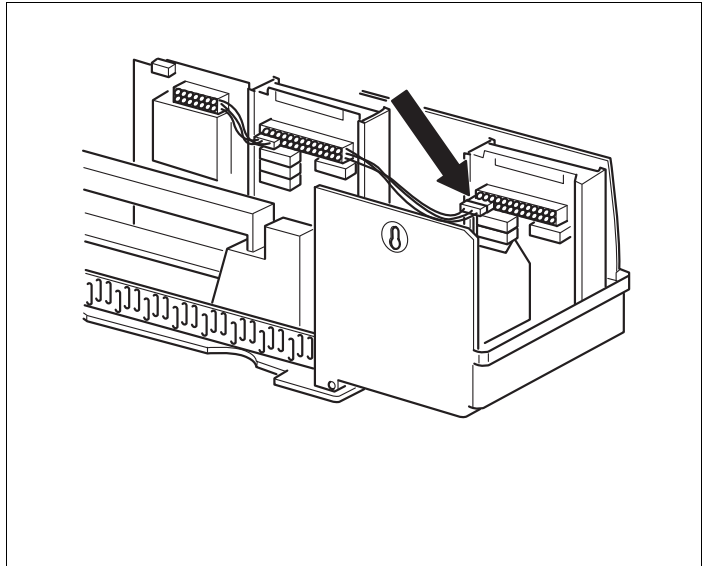

Fig. 5 Providing the 12 V power supply
- Plug the 12 V module plug onto the position on the plug bar (for module connection in slot 1, → Fig. 5).